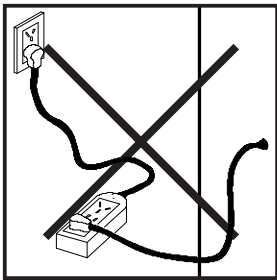

Fig.1
16. Connect to properly grounded outlets only. Do not use a 2 prong adapter. Never use with an extension cord or relocatable power tap (outlet/power strip) as shown in Fig.1.